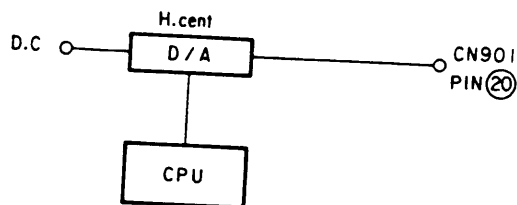

Fig. 3-13 H. CENT correction block
The signal of CPU (IC3) is input to IC4 (D/A) to adjust the voltage. And it is sent out to the D4 board as the H. CENT correction voltage from pin ② of connector CN901. The block diagram of H. CENT correction waveform circuit is as shown in Fig. 3-13.